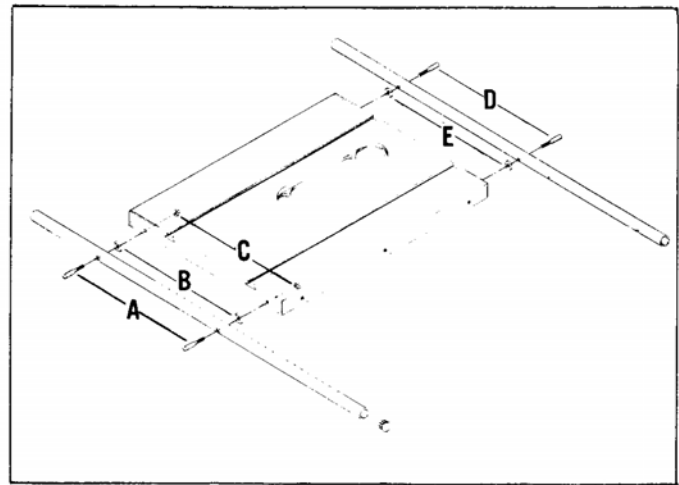

Fig. 9.
Assemble the front and rear guide rails to the saw table as shown in Fig. 9. The guide rail with the graduations and rack, is fastened to the front of the table with the graduations up. Slip the screws (A) Fig. 9, through the holes in the front rail, the drilled holes in the spacers (B), and on through the holes in the front of the table. Fasten with the hexagon nuts (C) Fig. 9. The rear guide rail is fastened to the table by inserting the screws (D) through the holes in the guide rail, the holes in the spacer (E) and into the tapped holes in the rear of the table.